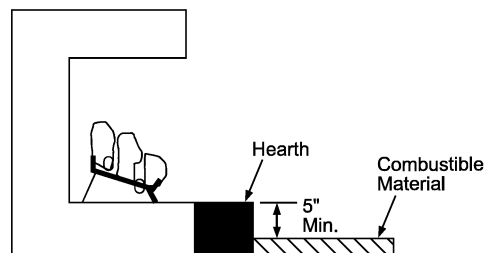

Figure 9 - Minimum Fireplace Clearances Above Combustible Flooring
- B.** If combustible materials are less than 14" to the fireplace, you must install appliance at least 5" above the top surface of combustible flooring including tile and carpet (see **Figure 9**).